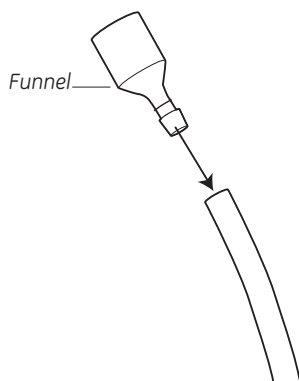

Figure 2-21. Fitting a funnel to a tubing.
- 4 Cut the tubing to appropriate lengths. Fit the funnels to the tubings, see Figure 2-21.